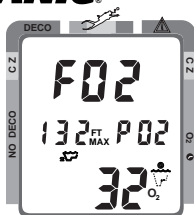

Fig. 48 - FO2 (Default OFF)
- If the FO2 Default was set OFF, the FO2 setting displayed will be the same value previously set (Fig. 48).